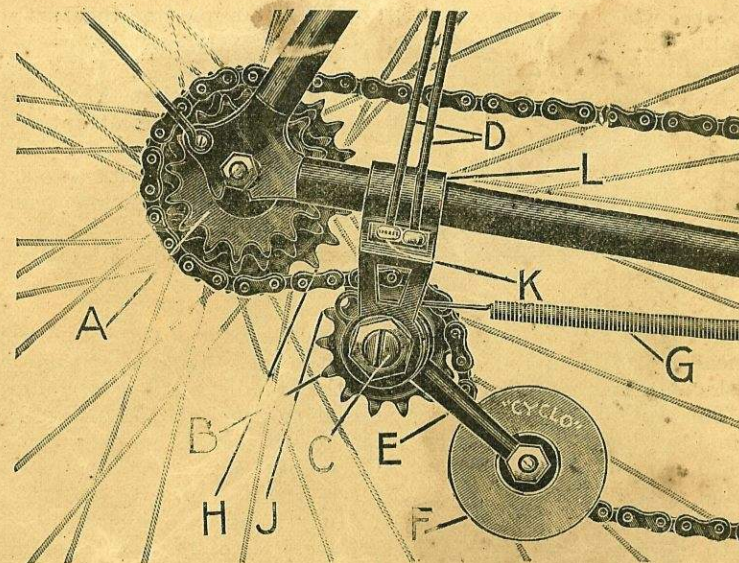

Fig. 1.
Where the clip-on type of support (L) is used, place the support well to the rear, with just sufficient clearance to allow for wheel removal when forward opening drop-out is concerned, or if the fork-ends are rear-opening with sufficient clearance between H and J (Fig 1). When the chain is running on the big sprocket and the hub spindle is in its proper place at the front of the fork-end slots, the clearance between the big sprocket and the jockey cog must not exceed  $1\frac{1}{2}$  in., the correct distance of the slotted spindle (C) depends upon the size of the largest sprocket